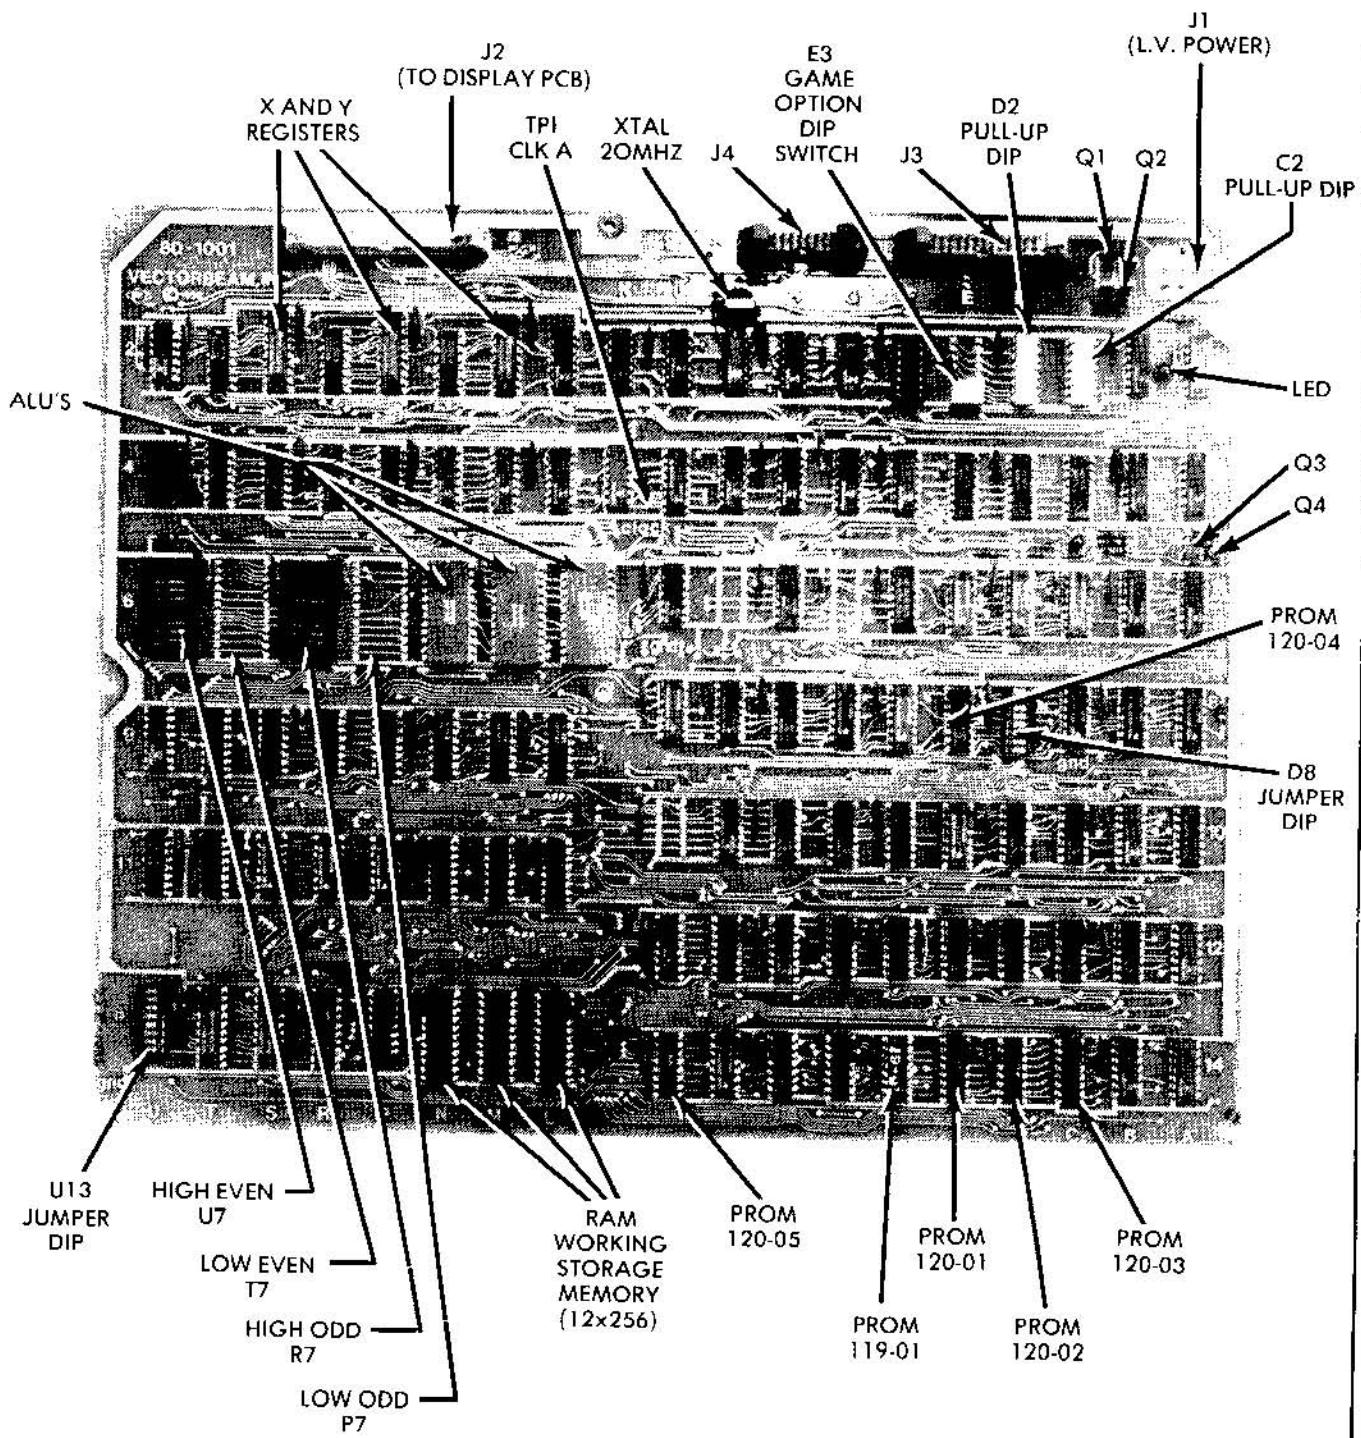

Figure 4-8 Logic PCB
- Connect the leads of an ohmeter (set to X1) across the first gear reed switch. See Figure 4-8.